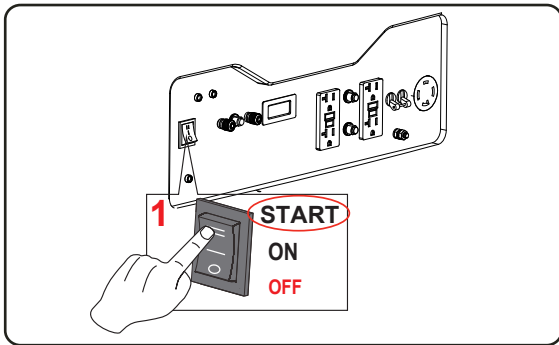

Fig 9 Electric Start
- For electric start, SKIP THIS IF THE ENGINE IS WARM OR HOT. Push and hold the engine START/ON/OFF switch in the “START” position. Do not hold the START/ON/OFF switch in the “Start” position for more than 15 seconds. Allow 1 minute between starting attempts. (See fig 9)